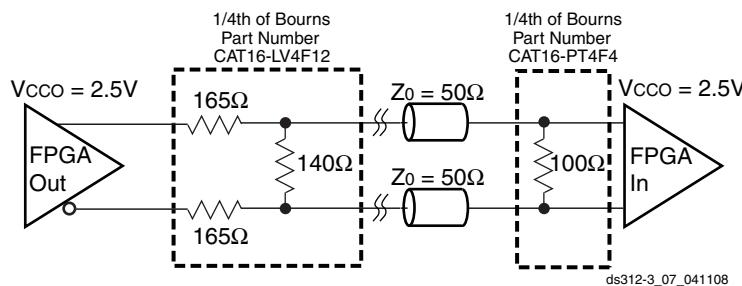

Figure 71: External Termination Resistors for BLVDS Transmitter and BLVDS Receiver
2. Output voltage measurements for all differential standards are made with a termination resistor (R_T) of 100Ω across the N and P pins of the differential signal pair. The exception is for BLVDS, shown in Figure 71.